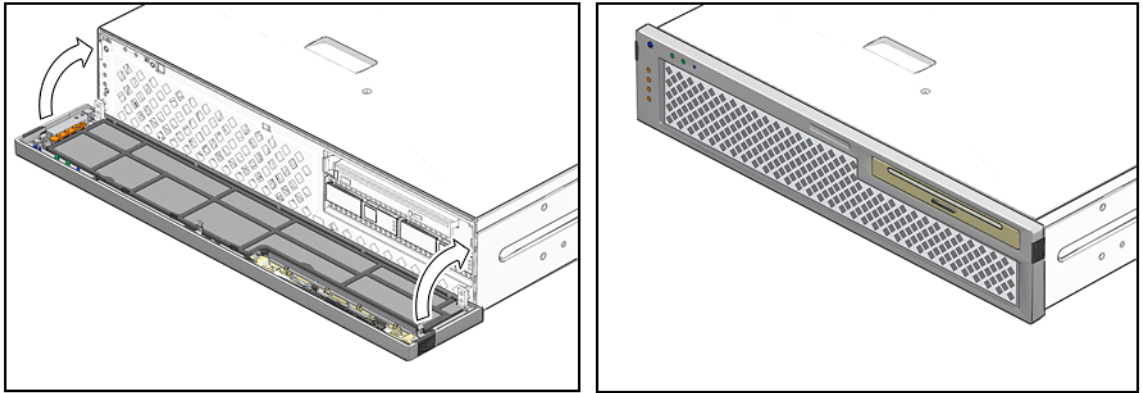

FIGURE 3-22 Closing the Bezel
5. Close the front bezel (FIGURE 3-22).